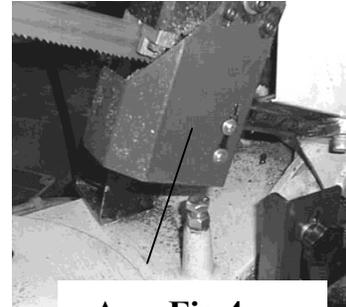

Fig. 3
1. Light (D) will be on when power is connected. Please open the Hydraulic Unit System button before any operation to make sure all machines' operation is in the right procedure. Open hydraulic feed valve (I) when in operation.
2. Button (C) raises the saw head away from the saw base. If saw head can not be raised, please check for proper power connection.
3. Start the motor by pushing the start button (A), Coolant switch (G) ( 0-close,1-open) to open the coolant system when saw blade is approaching work piece. When the cut is complete, turn off the coolant system (G)
4. Check if the upper limit switch is in proper position. Adjust handle (J) to move the up-down position.
5. Push button (B) to begin descent of the saw head and control the descent rate by adjusting feed valve (I).
6. To begin sawing start the blade motor, then depress button (B), saw head will automatically begin it's descent and start cutting the work piece. When the cutting is finished, saw head will return to the upper position. The motor will stop when saw head makes contact with the upper limit switch. Push button (F) to stop the machine, if needed.
7. When stopping a cut or resetting the saw is necessary, close the cylinder feeding valve (H), then push the stop button (F)
8. Press emergency button (E) to shut-off the motor when in an emergency situation.
9. An automatic shut-off limit switch is provided to stop the motor when the cut is completed. The limit switch (K) is controlled by button (L)(figure 3),